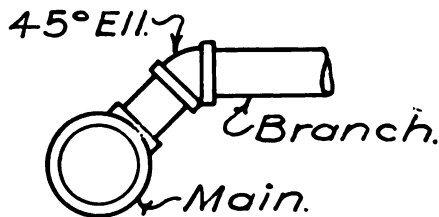

Fig. 29.—A 45 Degree Connection.
A. The tee on the main is set with the side opening looking upward at an angle of 45 degrees, and a nipple and 45 degree elbow are used for the branch connection. Fig. 29.